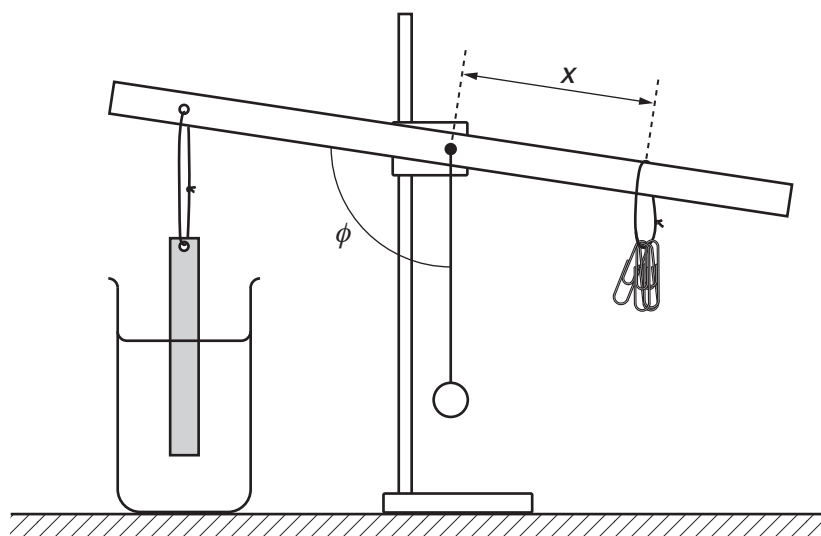

Fig. 2.2 (not to scale)
- (b) (i) Move the string loop holding the paper clips approximately 4 cm further from the nail. Let the wooden strip settle at an angle, as shown in Fig. 2.2.
- (ii) Measure and record the new distance x from the nail to the string loop holding the paper clips, as shown in Fig. 2.2.
- (iii) Measure and record the larger angle ϕ between the wooden strip and the plumb-line, as shown in Fig. 2.2.